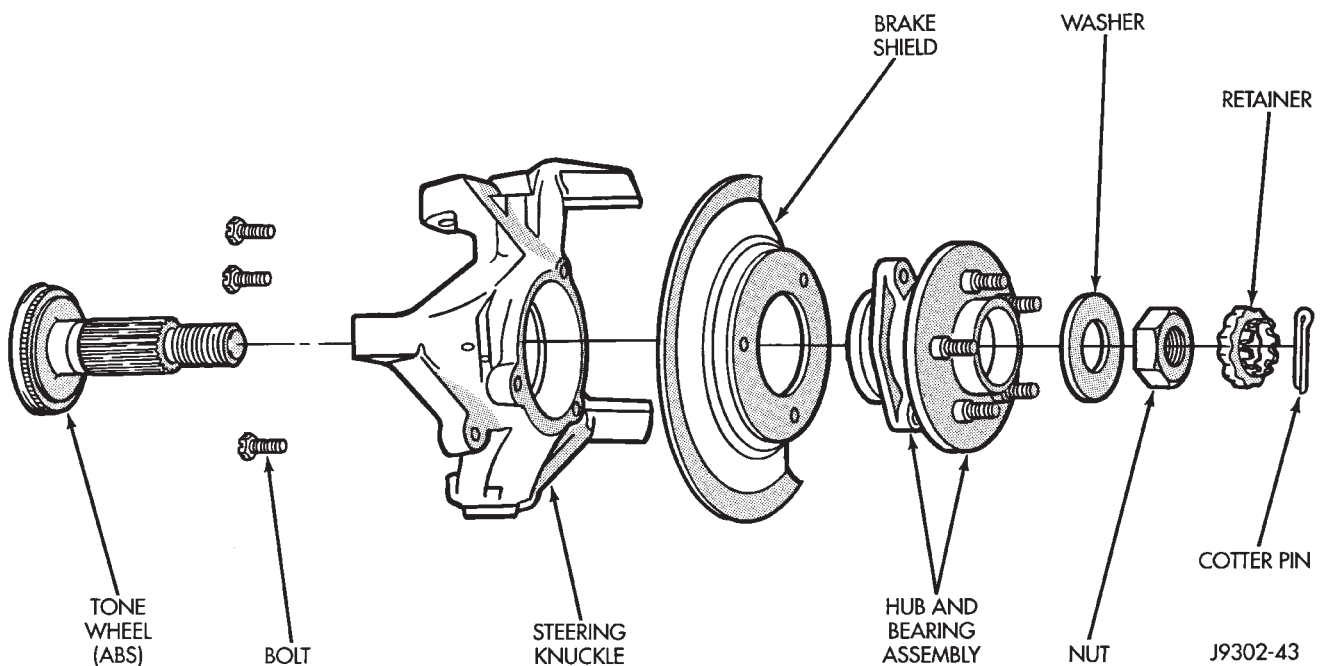

Fig. 20 Hub, Knuckle and Axle Shaft
- (1) Raise and support the vehicle.
- (2) Remove the wheel and tire assembly.
- (3) Remove the brake caliper and rotor. Refer to Group 5, Brakes, for proper procedures.
- (4) Remove ABS wheel speed sensor, if necessary. Refer to Group 5, Brakes, for proper procedures.
- (5) Remove the cotter pin, nut retainer, and axle hub nut (Fig. 20), if necessary.
- (9) Remove the brake rotor shield from the hub bearing or knuckle (Fig. 20).
- (1) Thoroughly clean the axle shaft (Fig. 20) and apply a thin film of Mopar® Wheel Bearing Grease, or equivalent, to the shaft splines, seal contact surface, and hub bore.
- (2) Install the brake rotor shield to the knuckle.
- (3) Install the hub bearing and axle shaft assembly, or axle shaft, into the housing and differential side gears. Avoid damaging the axle shaft oil seals in the axle housing.
- (4) Install the hub bearing, if necessary.
- (5) Install the hub to knuckle bolts and tighten to 102 N·m (75 ft. lbs.) torque.
- (6) Install the hub washer and nut, if necessary. Tighten the hub nut to 237 N·m (175 ft. lbs.) torque. Install the nut retainer and a new cotter pin (Fig. 20).
- (7) Install ABS wheel speed sensor, if necessary. Refer to Group 5, Brakes, for proper procedures.
- (8) Install the brake rotor and caliper. Refer to Group 5, Brakes, for proper procedures.
- (9) Install the wheel and tire assembly.
- (10) Remove support and lower the vehicle.